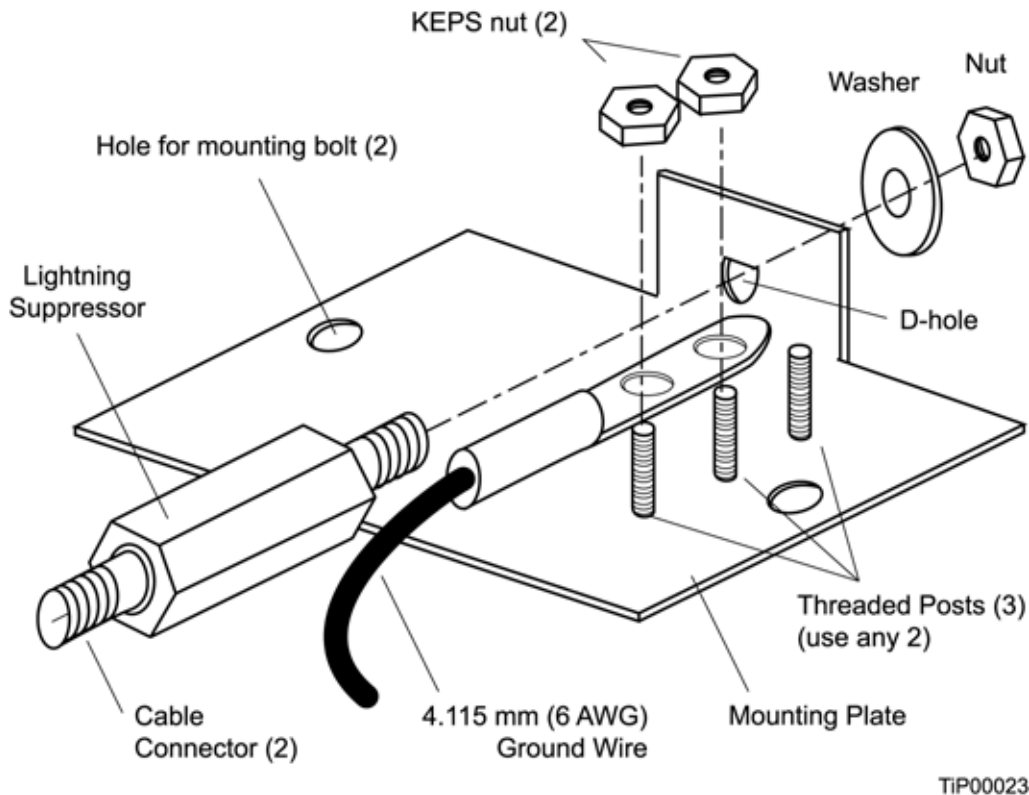

Figure 3-21. Assembling the Lightning Suppressor
9. Assemble the lightning suppressor as shown in Figure 3-21.